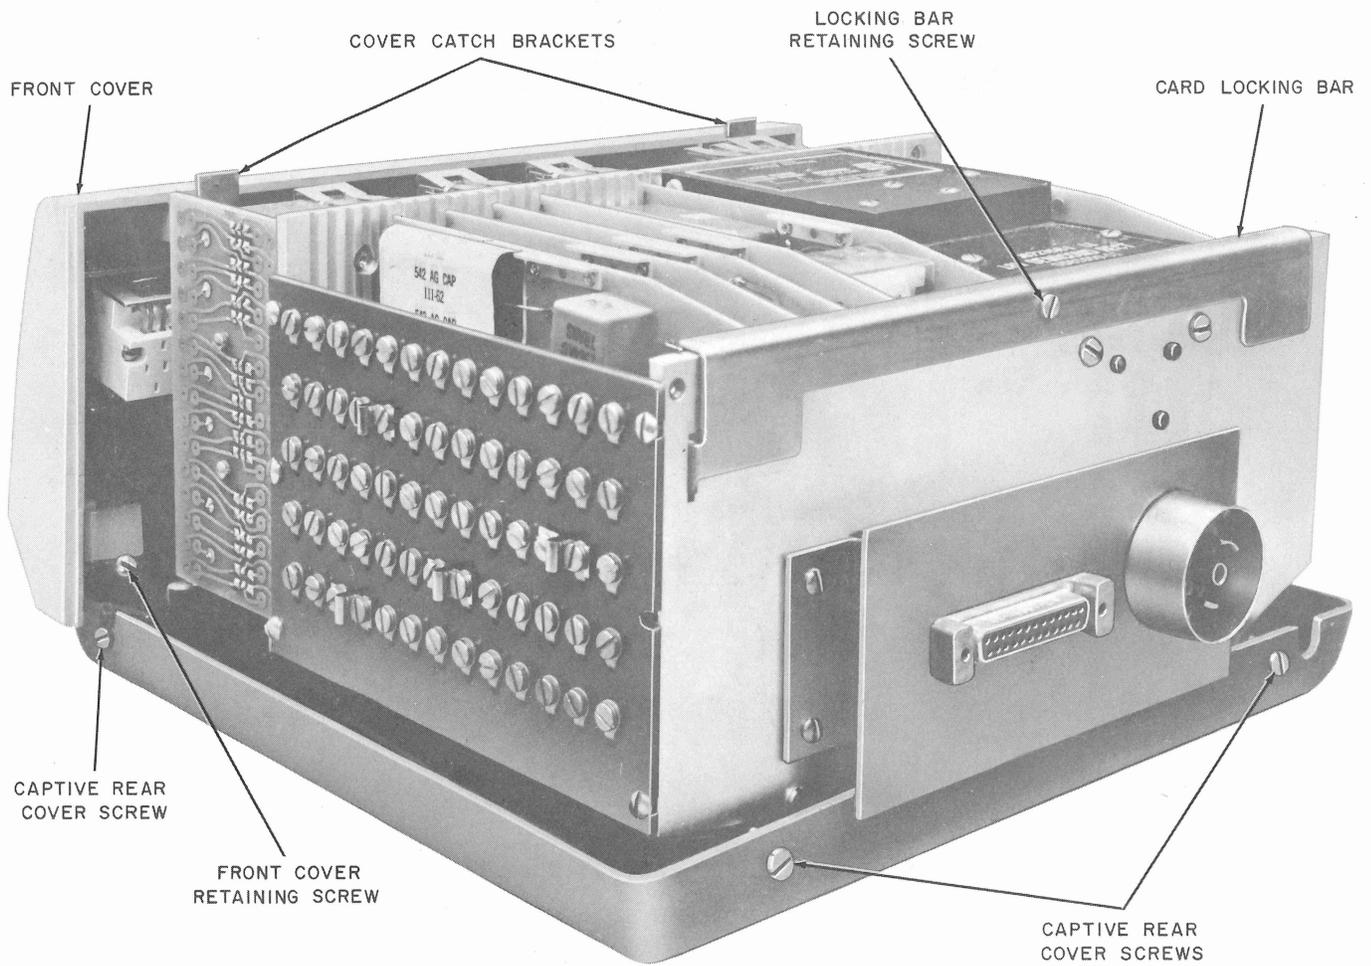

Fig. 7 — Data Auxiliary Sets 801C1 and 801C2 — Rear Cover Removed
- (a) Loosen but do not remove the four captive rear cover screws located around the basepan (Fig. 7).
- (c) Loosen but do not remove the two front cover retaining screws (Fig. 7).
- (c) Tighten the two front cover retaining screws (Fig. 7).